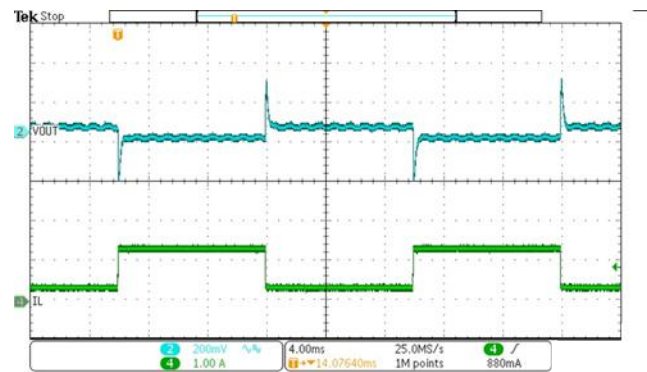

Figure 17. Load Transient
The SCT2321 features external programmable output voltage by using a resistor divider network R_1 and R_2 as shown in the typical application circuit Figure17. Use equation (11) to calculate the resistor divider values.